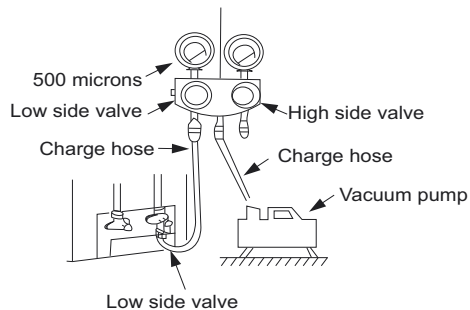

Fig. 19 — Manifold
3. Fully open the low side of manifold gage (see Fig. 19).